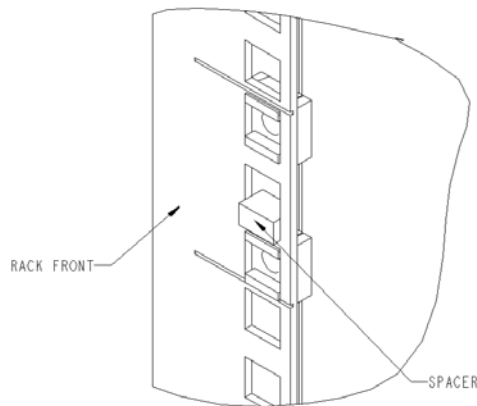

Figure 5. Installing the Tinnerman Nuts and Spacers (Compaq/Rittal Rack)
- For a Compaq/Rittal rack, install (2) #10-32 square Tinnerman nuts for each of the front columns of the rack in the top and bottom positions of the three-hole EIA pattern. Also install (1) spacer in the center position for each column on the front of the rack. See Figure 5.